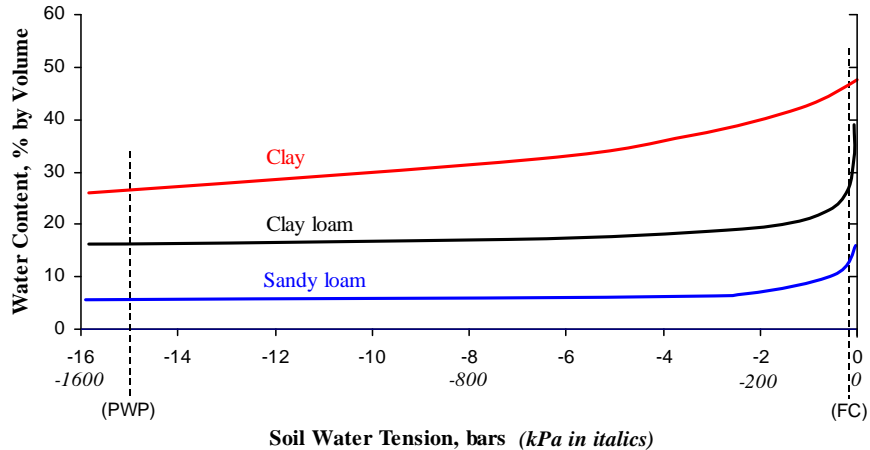

Figure 2. Example of soil moisture content curves
- *Soil measurements*. Different people prefer different devices, but the most important thing is to actively measure different depths, and occasionally dig backhoe pits. With sandy and sandy loam soils, or shallow soils, it is particularly important to monitor soil moisture at various depths in addition to using leaf water potential readings. This is shown in the three hypothetical soil moisture characteristic curves in **Figure 2**. The key point is that the vast majority of the AVAILABLE water held in a sandy loam soil is held at a matrix potential between (0) and (-2) bars. Once that soil moisture is used up, the matrix potential plummets rapidly.